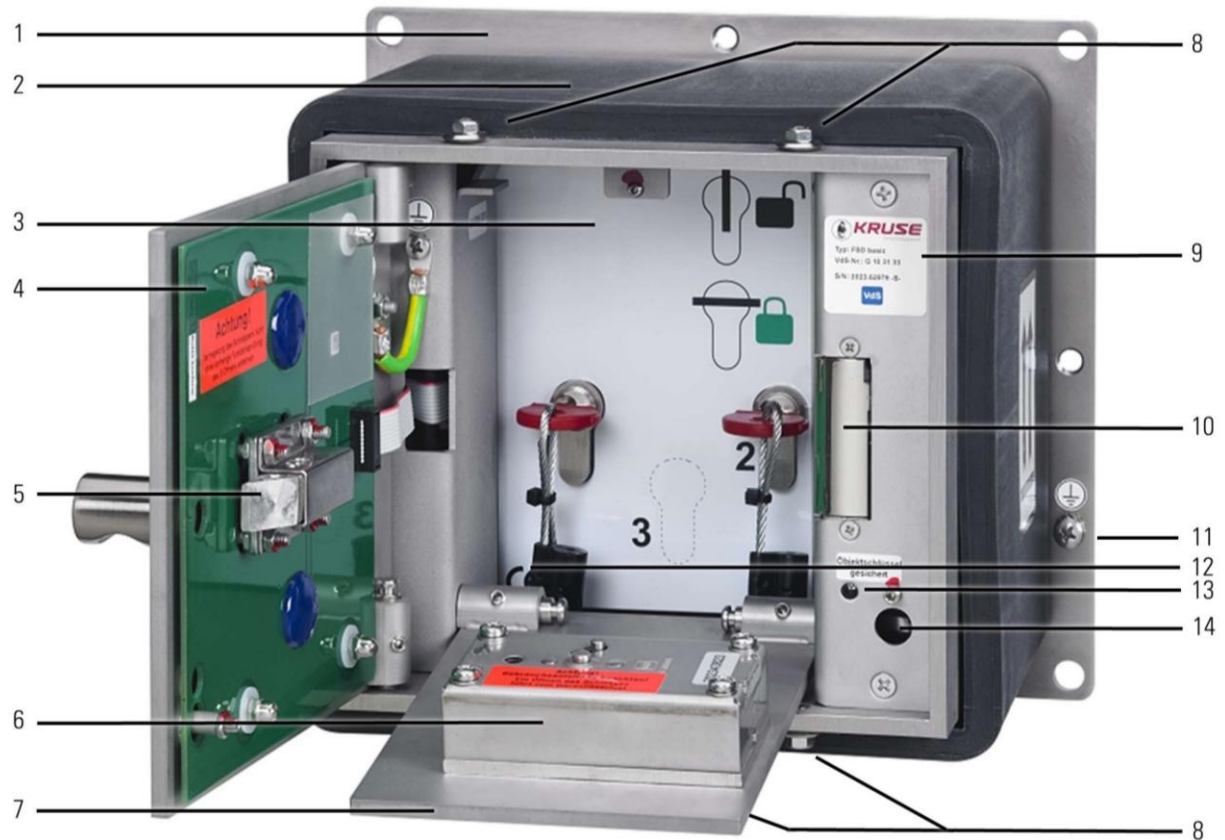

Figure 1: FSD (Art. 500006K)
See figure 1: The FSD basic consists of the FSD body (2), the OSÜ (3) and the inner door with fire brigade closure (7).